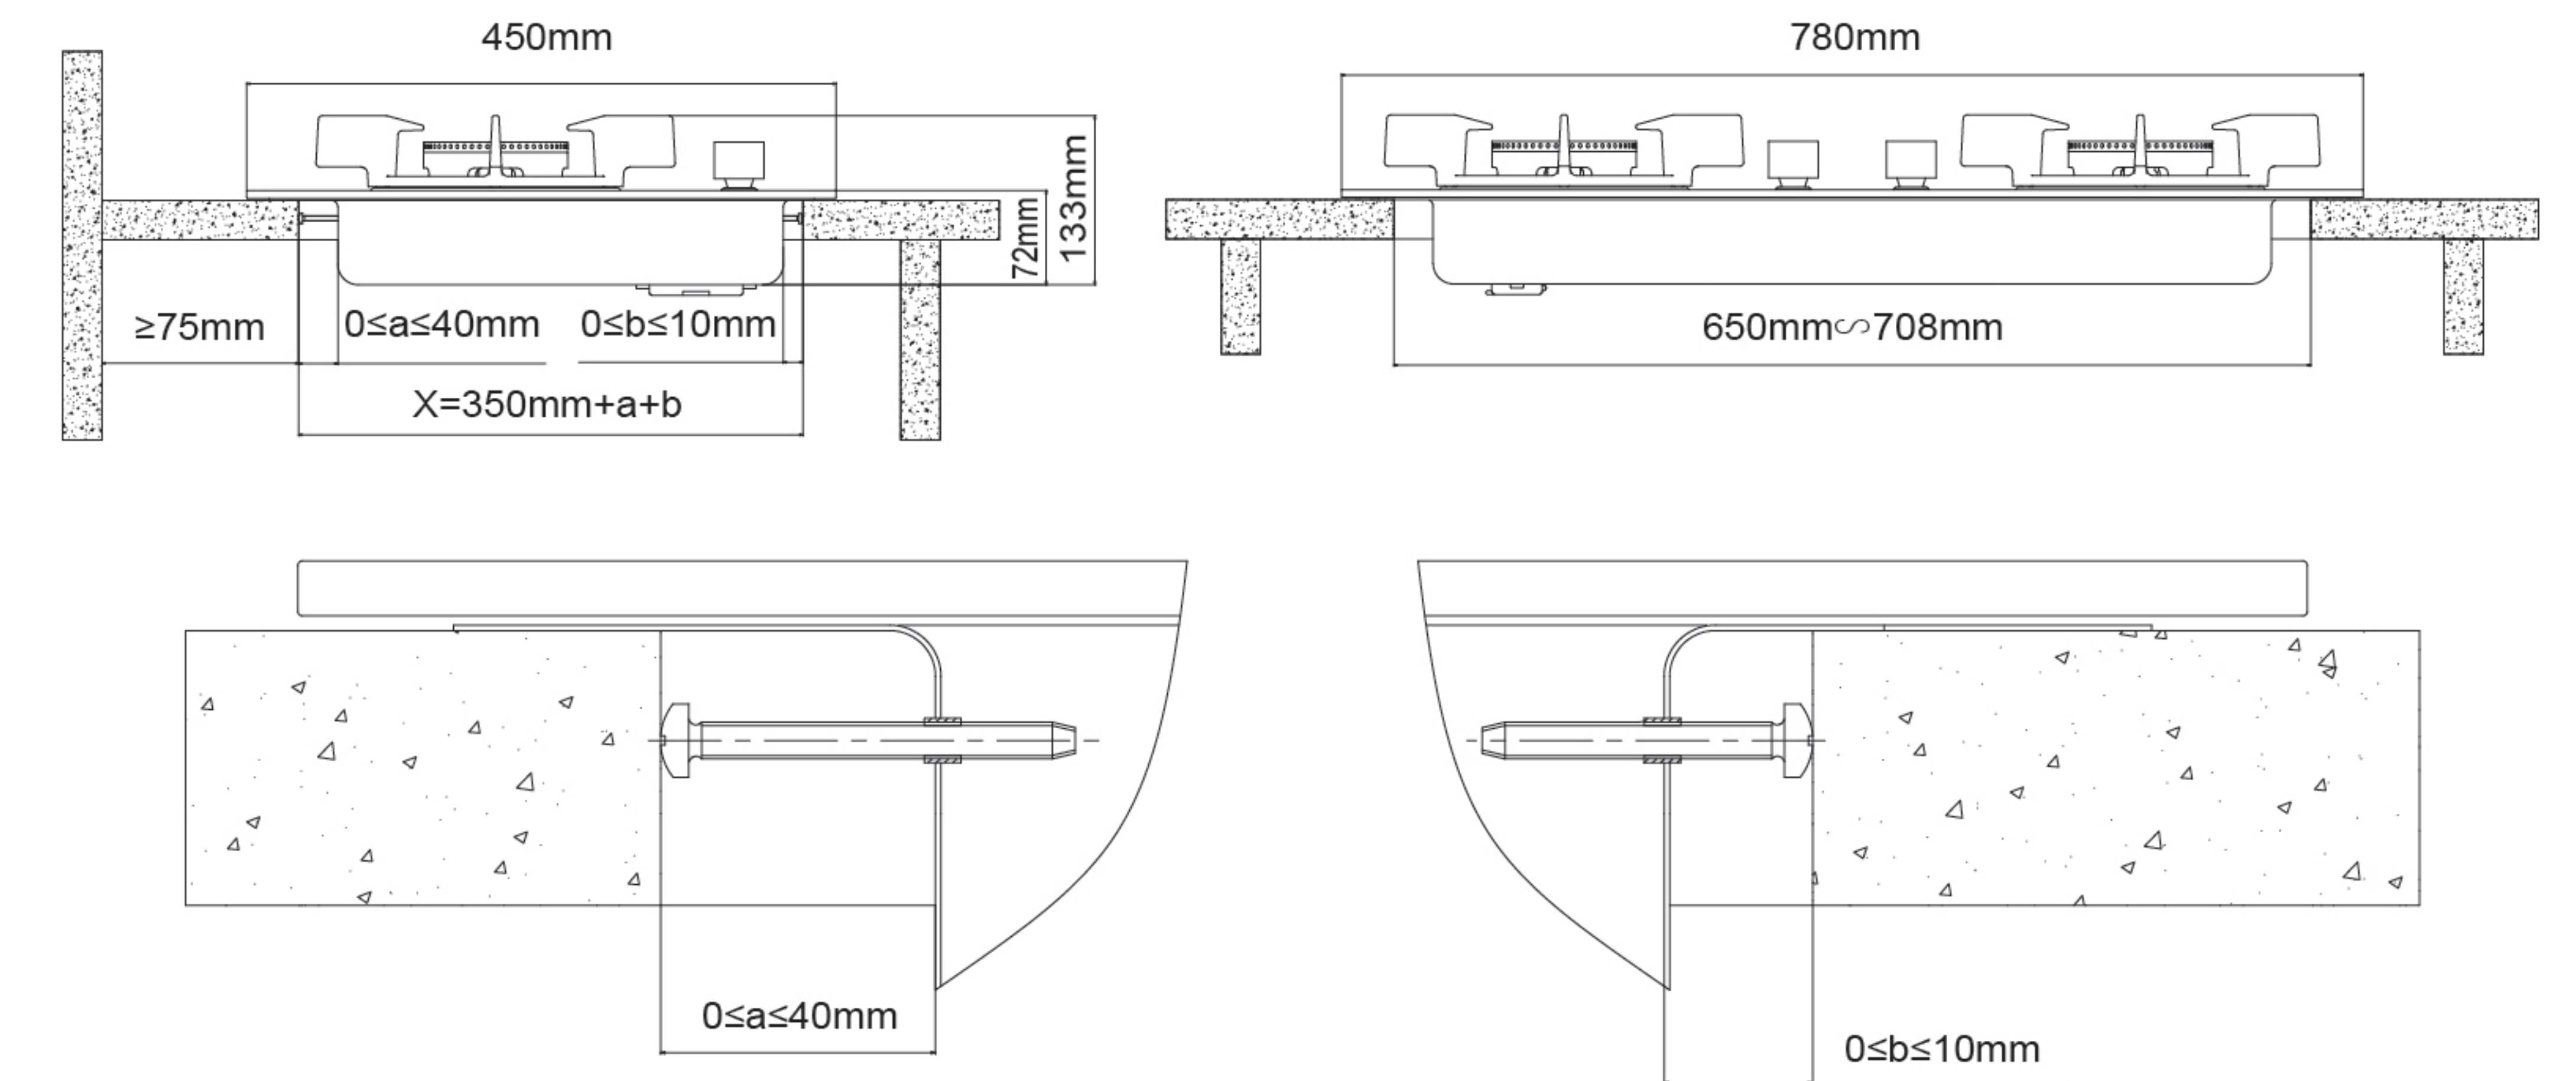

Fig.8
- (1)Buckle the rubber hose button to the hose, then hitch the hose to stove's air intake joint, till the red mark, and tightly constrict the rubber hose button. (refer to Fig.8)
- (2)Leak test: smear the joint part with tenuous and neutral cleanser(eg.soap subs), and open the general gas valve, if there is air bubble, please close the general gas valve soon, and repeat the action (1) and (2) until there is no air bubble.
- (3)If your family gas type is cylinder liquefied petroleum gas (LPG), please choose the qualified pressure reducing valve which is for family use. The gas pressure is 2800±500Pa.